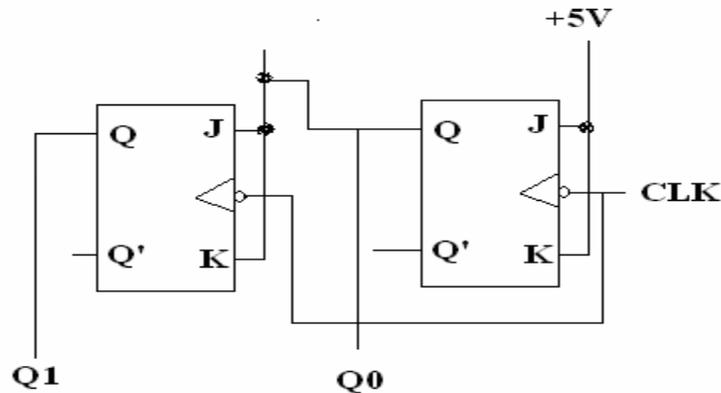

Figure.17: 2-bit Synchronous Counter
1. Use KL-26007 module, block c, which contains three separated JK flip flops to implement the 2-bit synchronous counter shown in Figure.17.